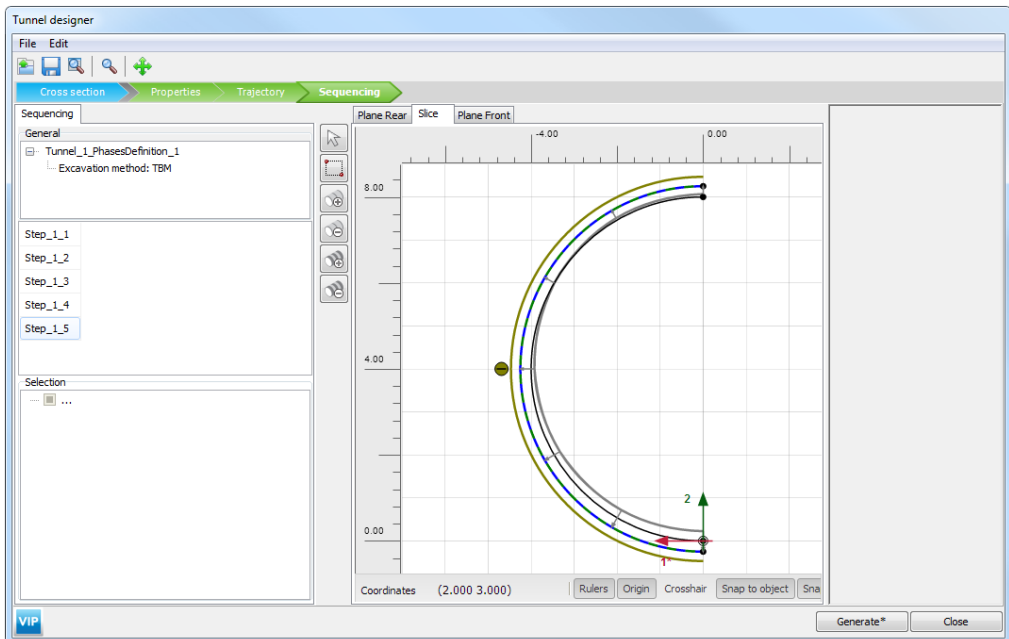

Figure 5.13 *Slice* tabsheet in the *Tunnel designer* from Step_1_3 to Step_1_5
- From Step_1_3 to Step_1_5, TBM with concity:** click on the *Add Step* button thrice to add 3 new steps. These steps are necessary to define the remaining cone part of the TBM shield (Figure 5.13).